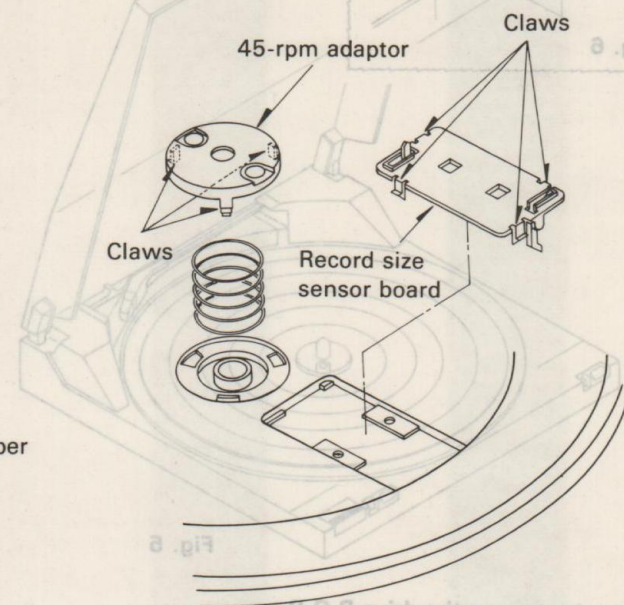

Fig. 3
2. Unfasten the 3 claws from the back of the turntable platter. Then the 45-rpm adaptor can be removed. (Fig. 3)
2. Unfasten the 4 claws from the back of the turntable platter. Then the record size sensor board can be removed. (Fig. 3)